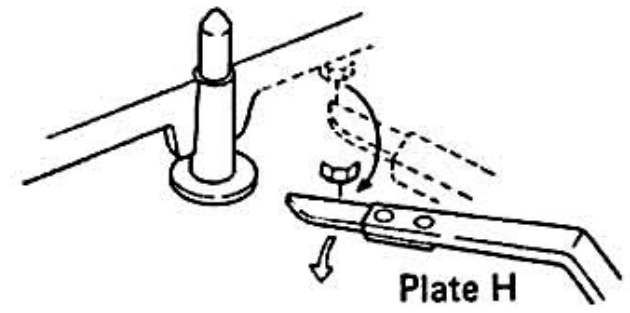

Fig. 10
4. When the stulus movement exceeds 3mm per record rotation, the platter pin engages plate H (Fig. 10).